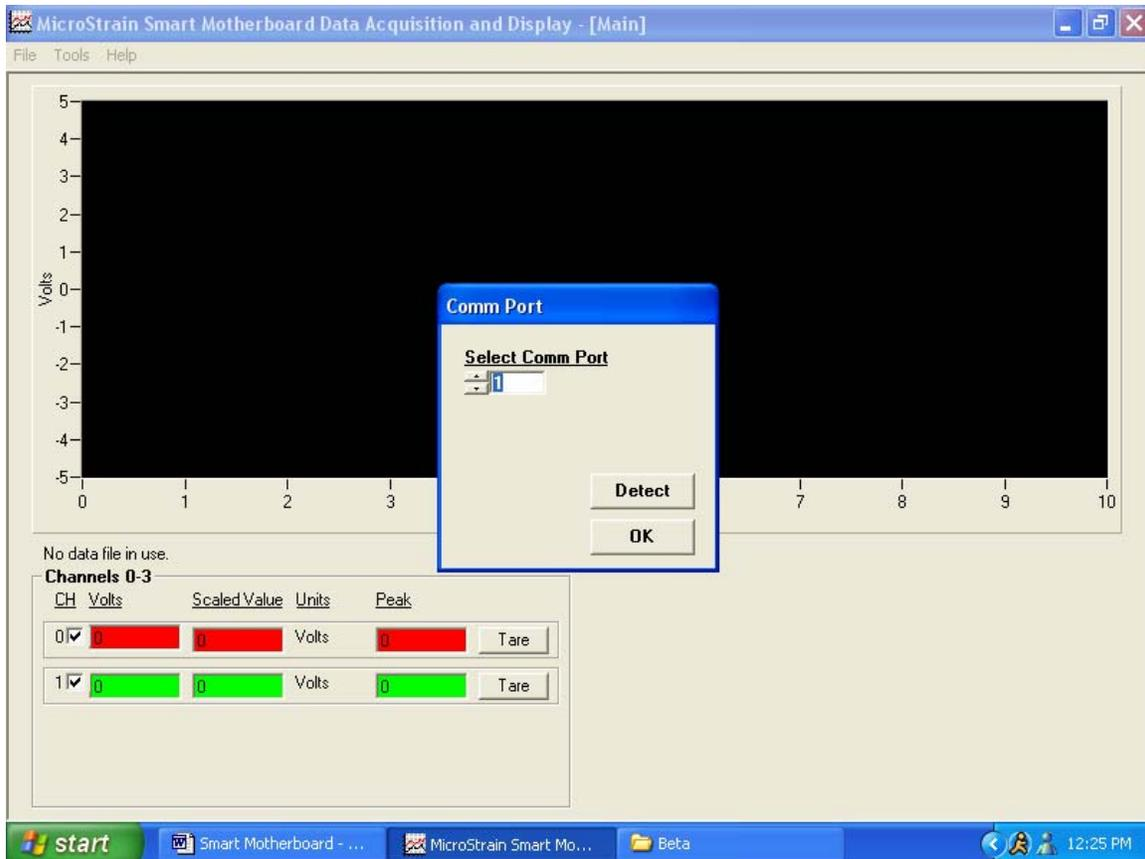

Figure 2.
- The Comm Port screen will appear as shown in figure 2.